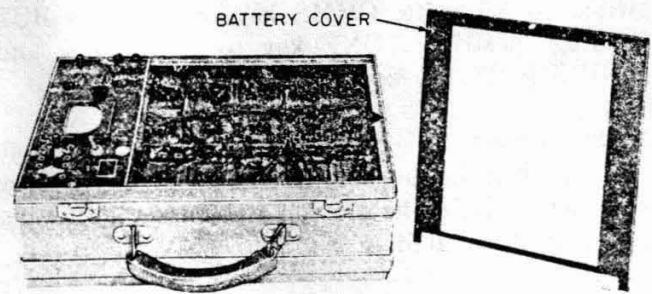

**Fig. 17—Testing Individual Battery**
**9.02** To test the individual KS-14196 batteries, remove the battery to be tested and insert the special BL-171486 test cord (Fig. 17). The other end of the test cord should be plugged into the jack in the test panel. Then with the LINE SHORT key operated to  $\mp$  position and the 630V switch to OFF, throw the OHMS key momentarily to BRKDNW position. If the current flow is less than 2 amperes, the battery should be replaced.